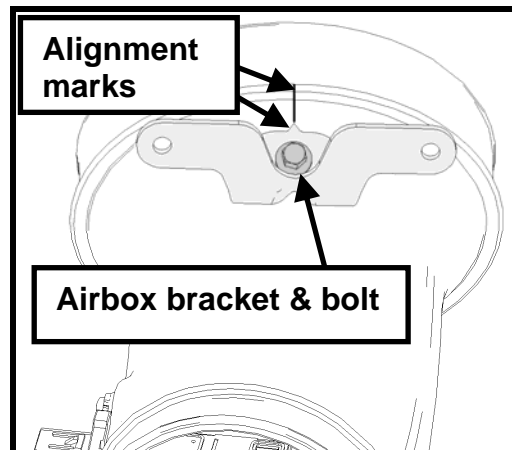

Fig. 29
STEP 13: Install the clean air tube support bracket (R07060104) to the clean air tube and position using the alignment marks on both the bracket and the tube. Secure the bracket to the tube using the bolt (N605771) supplied in the kit (See Fig. 29). **NOTE:** Apply medium-strength thread locking compound to the bolt threads prior to installation and torque this bolt to 10 Nm (88 lb in)